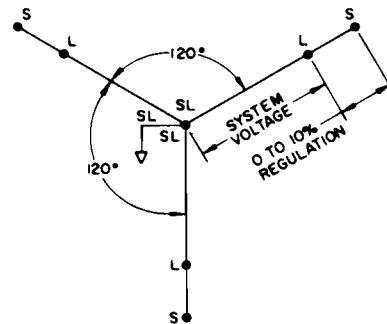

**Figure 16.**
- A three-phase, four-wire, multigrounded wye circuit (Figure 16).